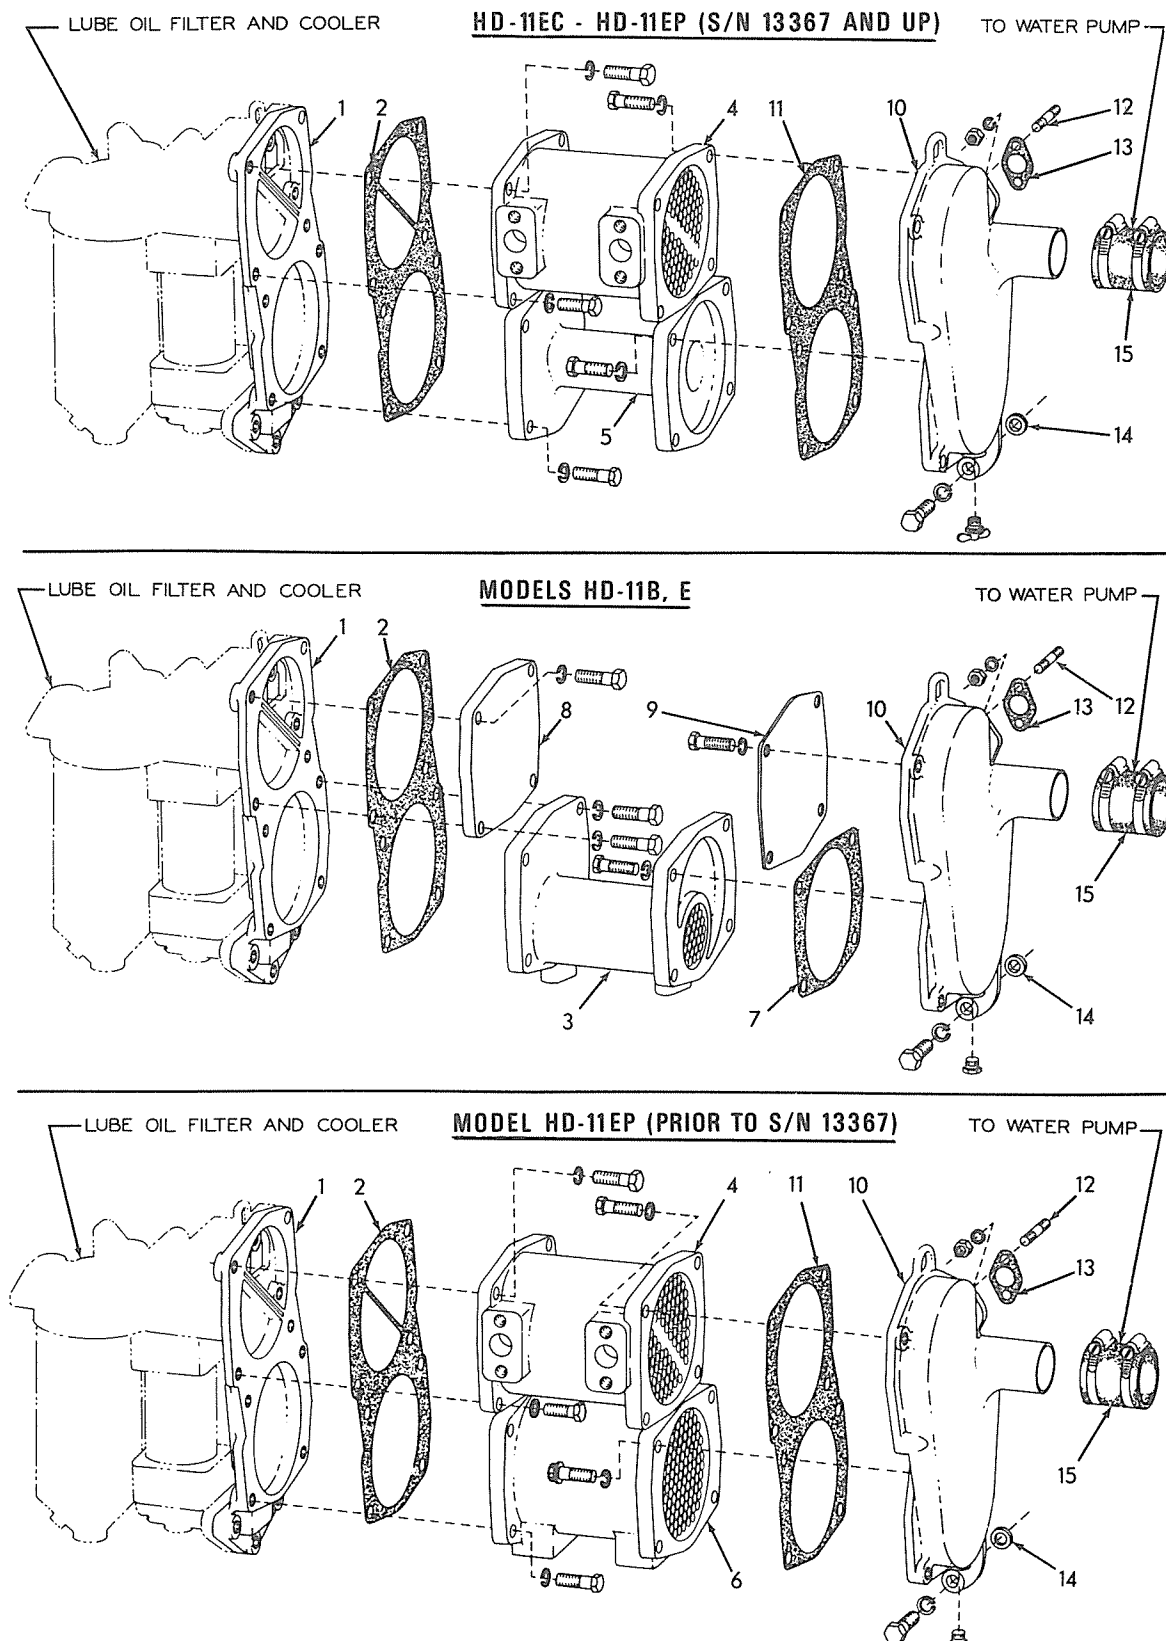

Fig. 15 — Transmission, Torque Converter, and/or Engine Clutch Oil Cooler Details (Track-Type Tractors) (T-41945)
4. TRANSMISSION, TORQUE CONVERTER, AND/OR ENGINE CLUTCH OIL COOLER REMOVAL (TRACK-TYPE TRACTORS) Fig. 15
The front and rear covers (10) (1) are the same on all engines used in track-type tractors, however, the type of oil cooler used depends upon the engine application. The various oil coolers used are illustrated in Fig. 15 and the following removal procedure applies to all.
- b. Disconnect hose (15).
- d. Remove cap screws and lockwashers attaching front cover (10) to oil cooler(s).
- e. Remove nuts, cap screw and lockwashers attaching front cover (10) to cylinder block and remove front cover spacing washer (14), and gaskets (13) and (11) or (7).
- f. Remove cap screws and lockwashers attaching oil cooler(s) to rear cover (1) and remove oil cooler(s).